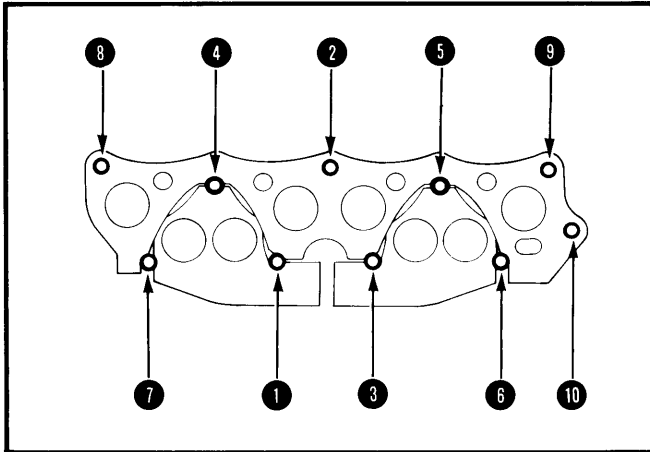

Fig. 2 Manifold Tightening Sequence (Loosen in Reverse Sequence)
Removal – Loosen 4 intake-to-exhaust manifold bolts. Remove manifold-to-head mounting nuts in reverse order of tightening sequence. See Fig. 2. Remove and disassemble manifolds.
2) Place manifolds and new gasket in position on cylinder head. Tighten mounting bolts in sequence shown in Fig. 2. Tighten exhaust-to-intake manifold bolts.